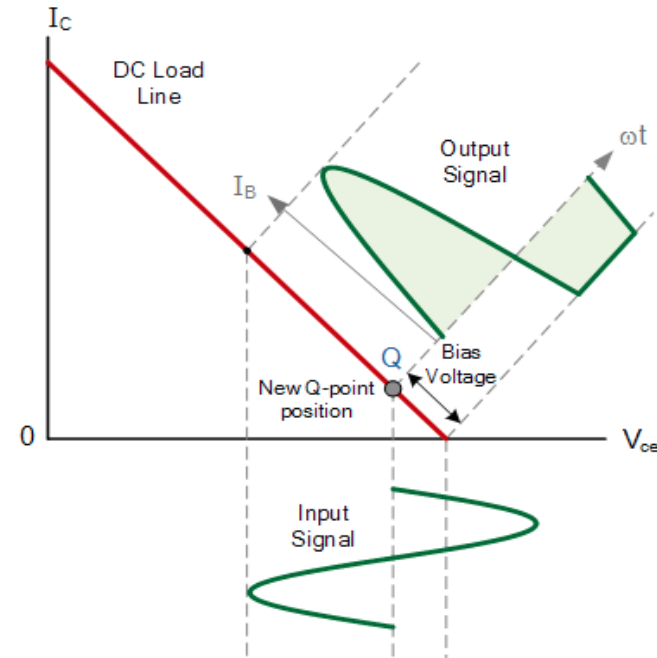

Figure 20
- The amount of diode biasing voltage present at the base terminal of the transistor can be increased in multiples by adding additional diodes in series. This then produces an amplifier circuit commonly called a **Class AB Amplifier** and its biasing arrangement is given in Figure 20.